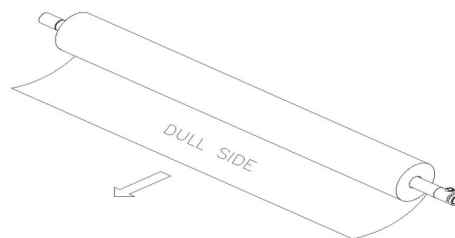

Figure 3
1. For the top supply roll place the mandrel ends into the slots in the top of the laminator. If you are facing the front of the laminator the film should unwind toward you from the bottom of the roll as in Figure 3 on the next page.